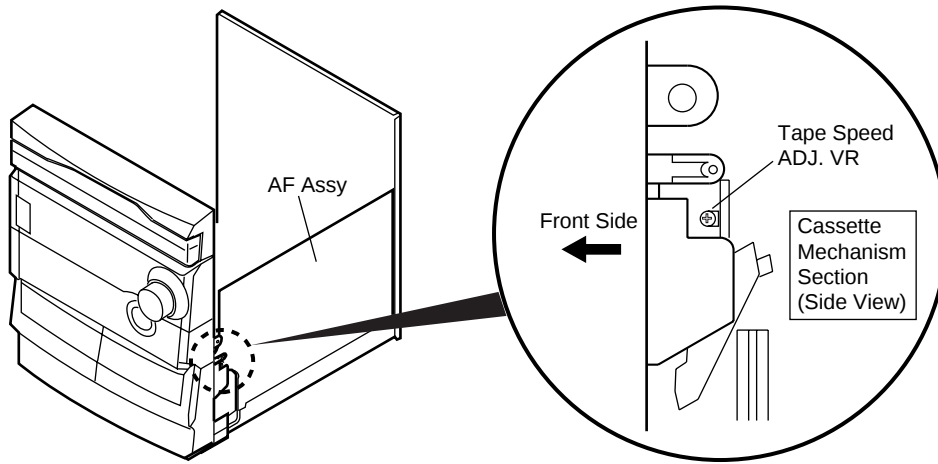
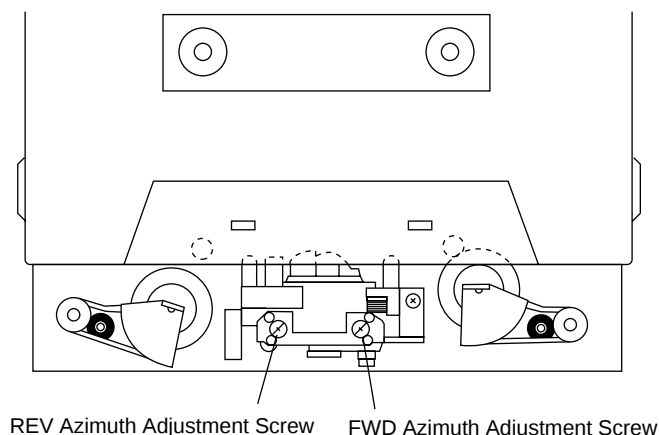

Fig.8 Tape Speed ADJ. Point
Fig. 10 Head Azimuth Adjustment Screw
- Adjustment points and test points are shown in Fig.8, Fig.10 and Fig.11.